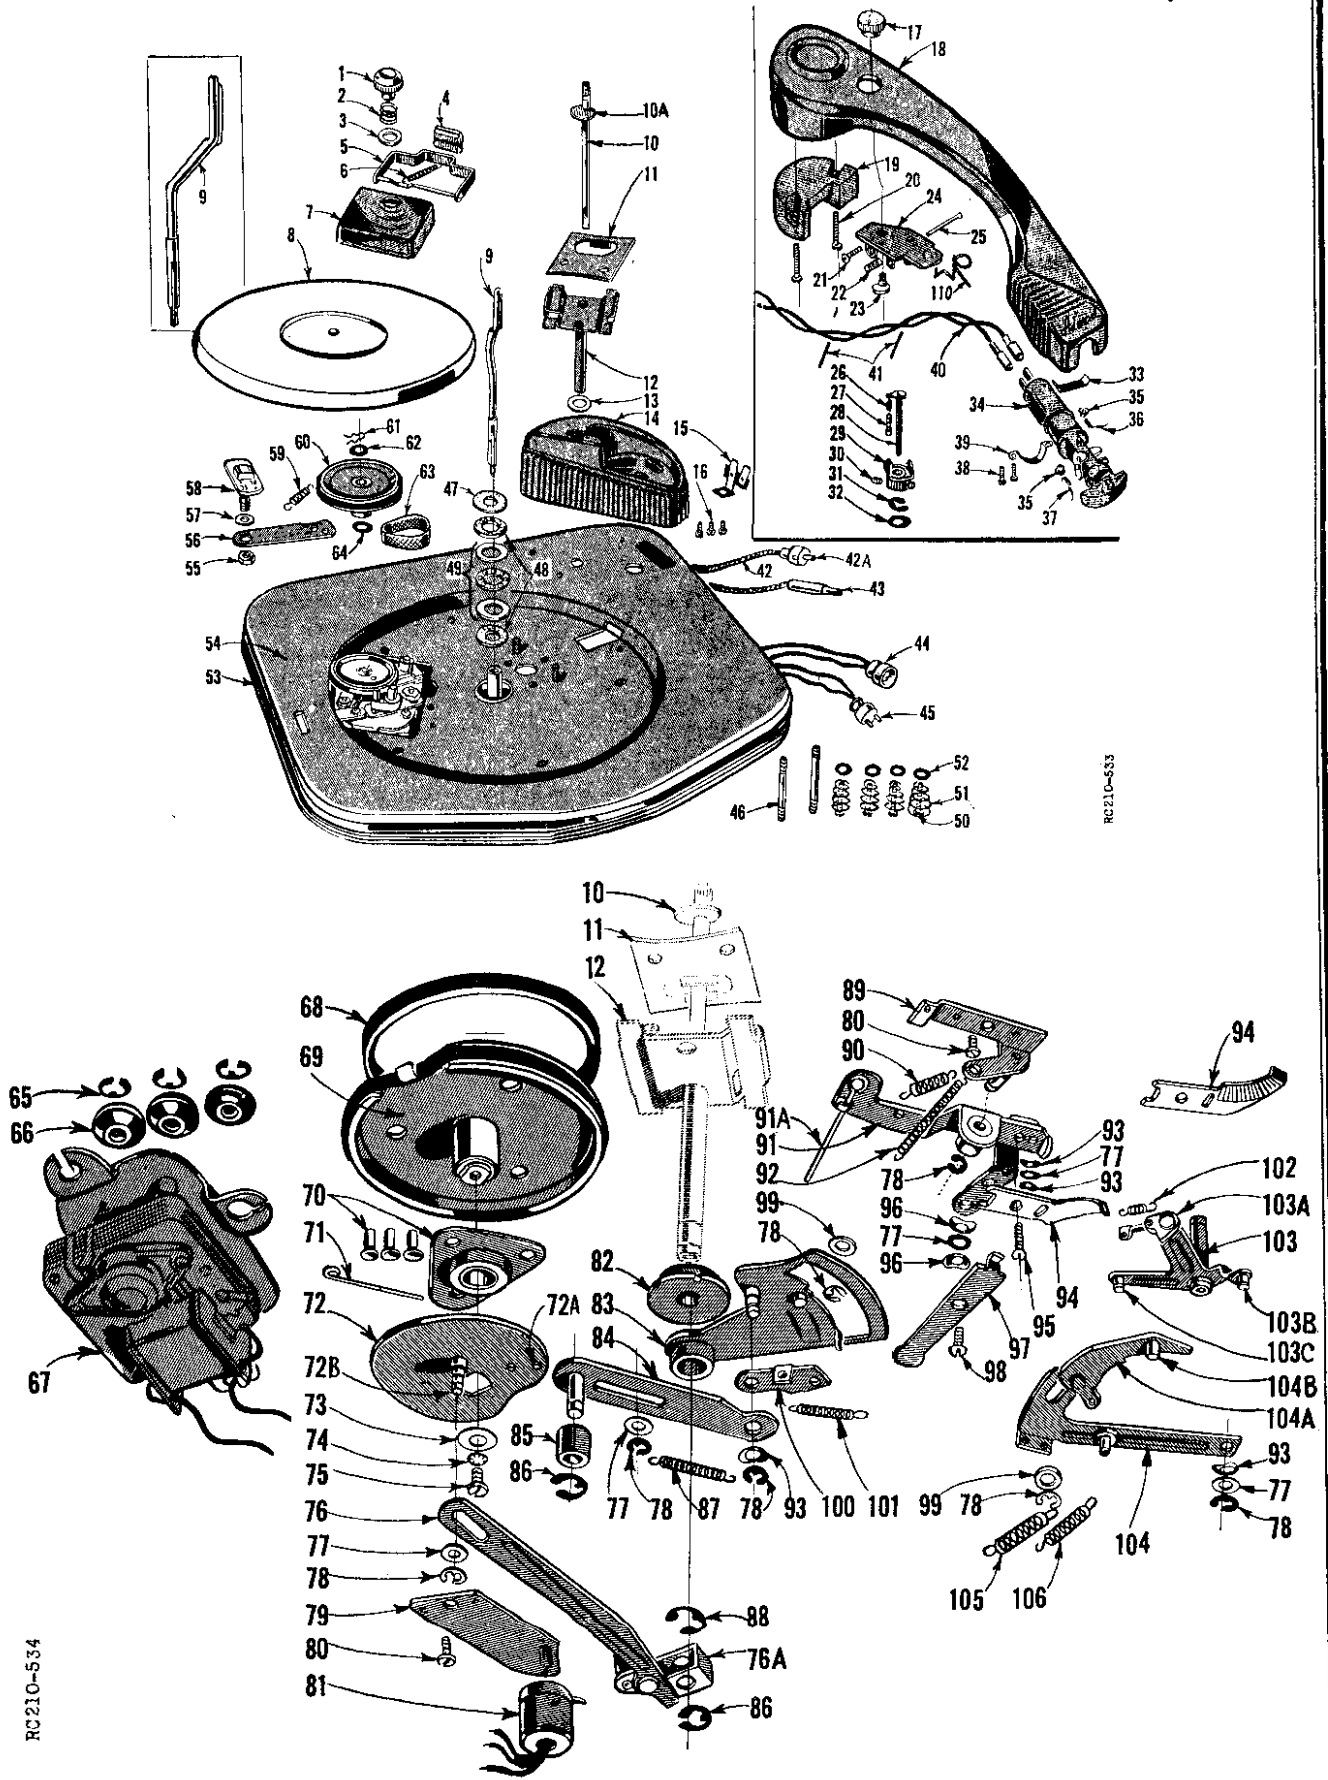

Figure 9. RC210 Record Changer, Exploded.
The washers (47 and 48) and thrust bearing assembly (49) are removed by sliding them off of the centerpost. In replacing, have them in the order shown in Figure 9.